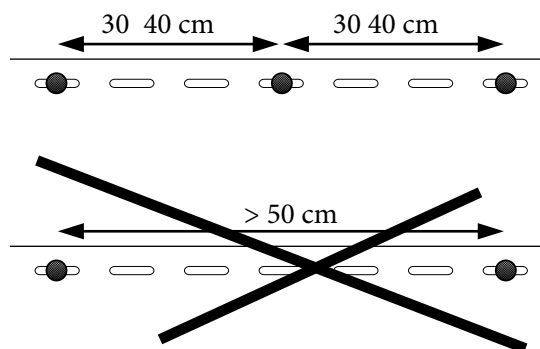

fig. 6
1. On firring surface is mounted starter strip in early marked chalk line. Its fastening is made by nails or screws in every 30 cm. (Fig. 6). Starter strip is set evenly and horizontally. When adding starting strips sections, leave the distance between them in 5-6 mm for possible extension. The company "Alta-Profile" provides metal starter strip, it is more reliable than common PVC, as it allows fast connection of front panels between each other. Moreover, it is not seen on finishing wall.